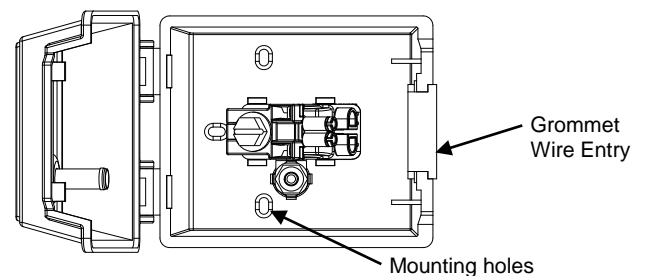

Figure 2
5. The mounting holes are covered with a thin film of plastic, easily punched out, to maintain the environmental integrity of the protector (See Figure 2).